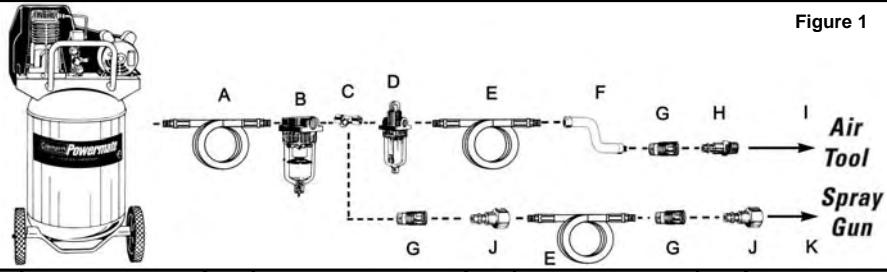
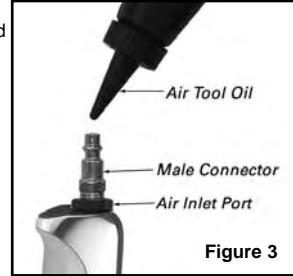

Figure 1
Figure 3
9. Connect the tool to the air hose quick coupler. **NOTE: It is recommended that a whip hose with a swivel (P012-0079SP - not included) be used to prevent twisting, kinking and excessive wear to the air hose (ref. item "F" in figure 1 for recommended connections).**
To maintain the maximum performance of the air tool, it must be lubricated each time it is used. Dust, dirt, rust and oil residue will build up inside the tool and reduce the performance. An in-line oiler is recommended for proper automatic tool lubrication (see Figure 1). If an in-line oiler is not available, the tool can be lubricated manually through the inlet port (see Figure 3).